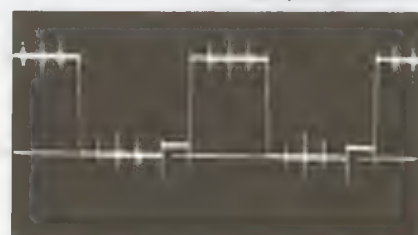

Fig. 5-72.
3. Connect the probe to TP 2 on the BC board and turn RV 2 on the BB board for adjusting the G-Y phase as shown in Fig. 5-72.
4. Turn RV 1 on the BB board for adjusting the G-Y level as shown in Fig. 5-72.